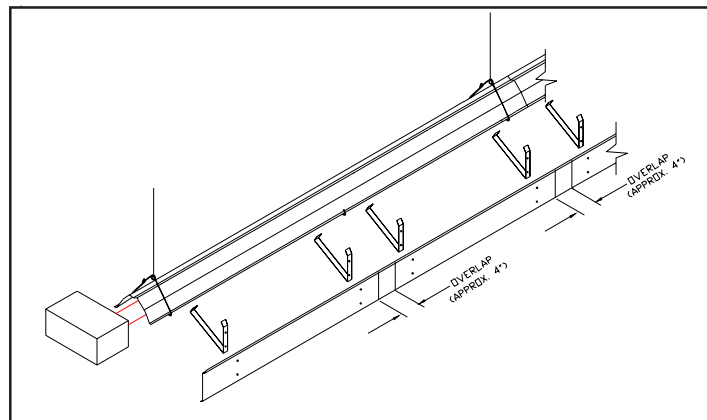
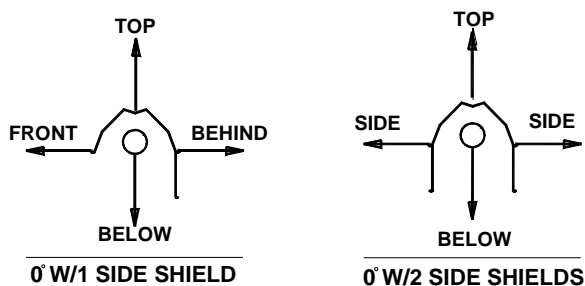

Fig. 2-12
Fig. 2-13
**Side Shield Extensions** (Part No. SSE) designed to direct infra-red rays downward, away from sidewalls and combustibles. This includes stored combustible containers, heating between two large vehicles, crane rail motors, wiring and other applications that require protection. Figure 2-12 details a side shield assembly installation. Figure 2-13 shows where to measure the new clearances from. Data for these clearances is available in the product insert for each series of heaters.